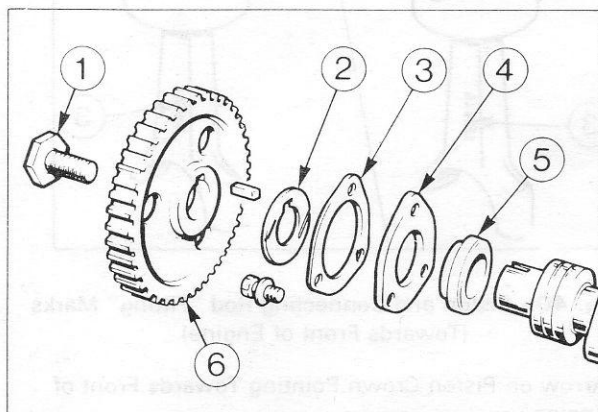

Fig. 36 O Camshaft Gear Assembly
28. Install the camshaft thrust collar, shouldered face outermost, the thrust plate (well lubricated), and the retaining plate. Install the bolts but do not tighten (Fig. 36).